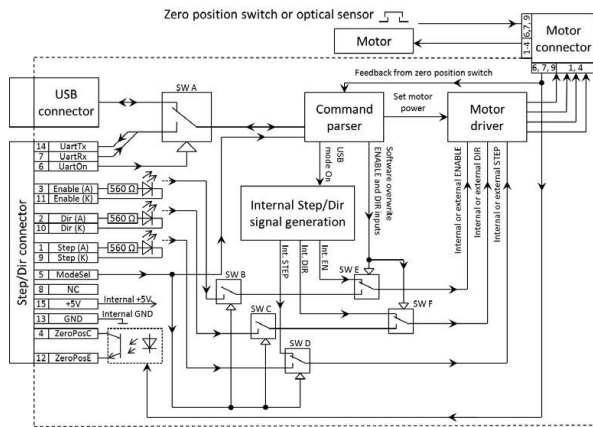

Figure 5 Block diagram of Polarizer Rotator controller.
Polarizer Rotator controller consists of three blocks. Each is shown in Figure 5.
- Dir (A), Dir (K). 3.3 V - 5 V compatible input to optocoupler anode Dir (A) and cathode Dir (K). This input controls motor direction in “Step-Dir” mode. +5 V on Dir (A) pin with reference to Dir (K) sets motor direction clockwise. This input can be overridden by command parser – see “Serial commands and protocol” on page 27 and Figure 5 (SW F) on page 19 for details.
- Enable (A), Enable (K). 3.3 V - 5 V compatible input to optocoupler anode Enable (A) and cathode Enable (K). This input reduces motor current in in “Step-Dir” mode. +5 V on Enable (A) pin with reference to Enable (K) reduce motor current to “Standby current” value set in controller settings. Otherwise, “Motion current” flows to motor and “STEP” pulses rotate the motor. This input can be overridden by command parser – see “Serial commands and protocol” on page 27 and Figure 5 (SW F) on page 19 for details.